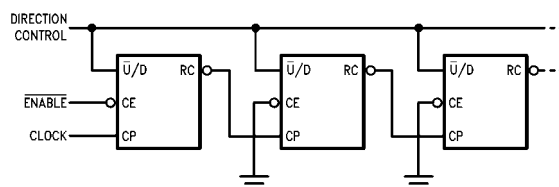
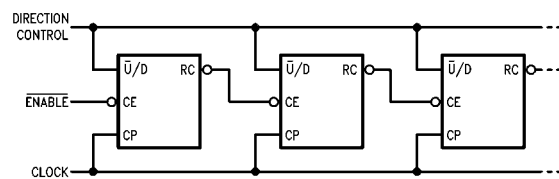

FIGURE 1. n-Stage Counter Using Ripple Clock
FIGURE 2. Synchronous n-Stage Counter Using Ripple Carry/Borrow
The TC signal is also used internally to enable the Ripple Clock (RC) output. The RC output is normally HIGH. When $\overline{CE}$ is LOW and TC is HIGH, the RC output will go LOW when the clock next goes LOW and will stay LOW until the clock goes HIGH again. This feature simplifies the design of multistage counters, as indicated in Figure 1 and Figure 2. In Figure 1, each RC output is used as the clock input for the next higher stage. This configuration is particularly advantageous when the clock source has a limited drive capability, since it drives only the first stage. To prevent counting in all stages it is only necessary to inhibit the first stage, since a HIGH signal on $\overline{CE}$ inhibits the RC output pulse, as indicated in the RC Truth Table. A disadvantage of this configuration, in some applications, is the timing skew between state changes in the first and last stages. This represents the cumulative delay of the clock as it ripples through the preceding stages.
A method of causing state changes to occur simultaneously in all stages is shown in Figure 2. All clock inputs are driven in parallel and the RC outputs propagate the carry/borrow signals in ripple fashion. In this configuration
The configuration shown in Figure 3 avoids ripple delays and their associated restrictions. The CE input for a given stage is formed by combining the TC signals from all the preceding stages. Note that in order to inhibit counting an enable signal must be included in each carry gate. The simple inhibit scheme of Figure 1 and Figure 2 doesn't apply, because the TC output of a given stage is not affected by its own CE.